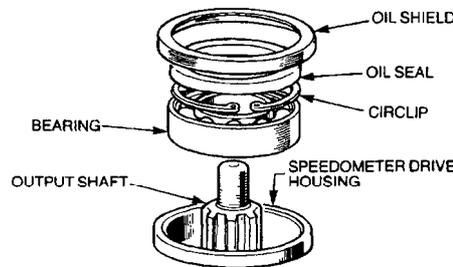

Figure 186 Removing the Output Shaft
- s. Remove the oil shield, oil seal and circlip (Figure 186) and, using a suitable press, remove the output shaft and bearing.